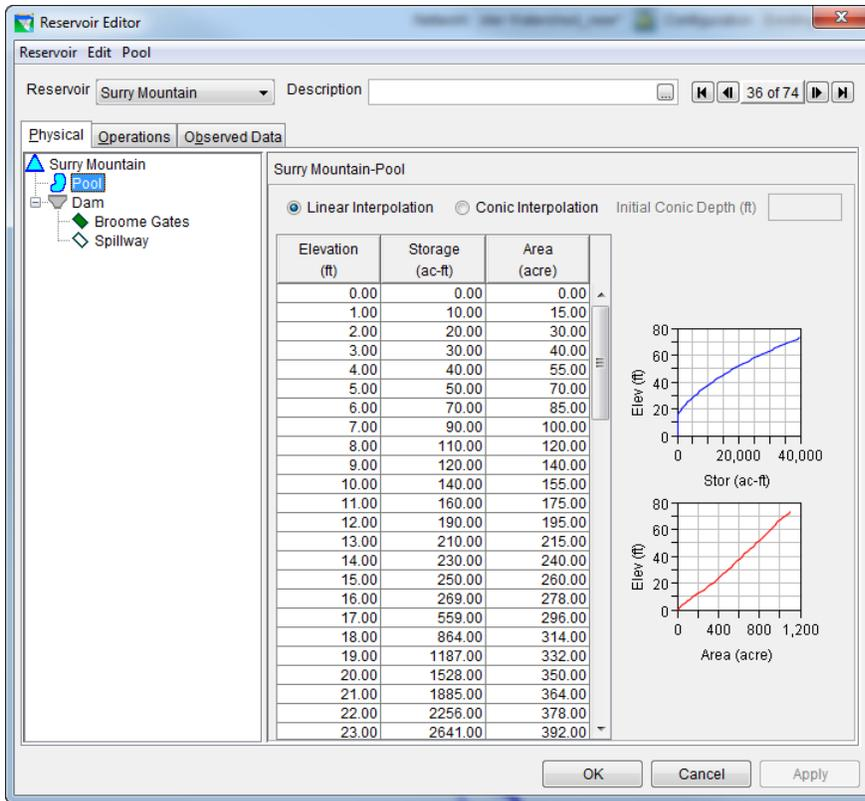
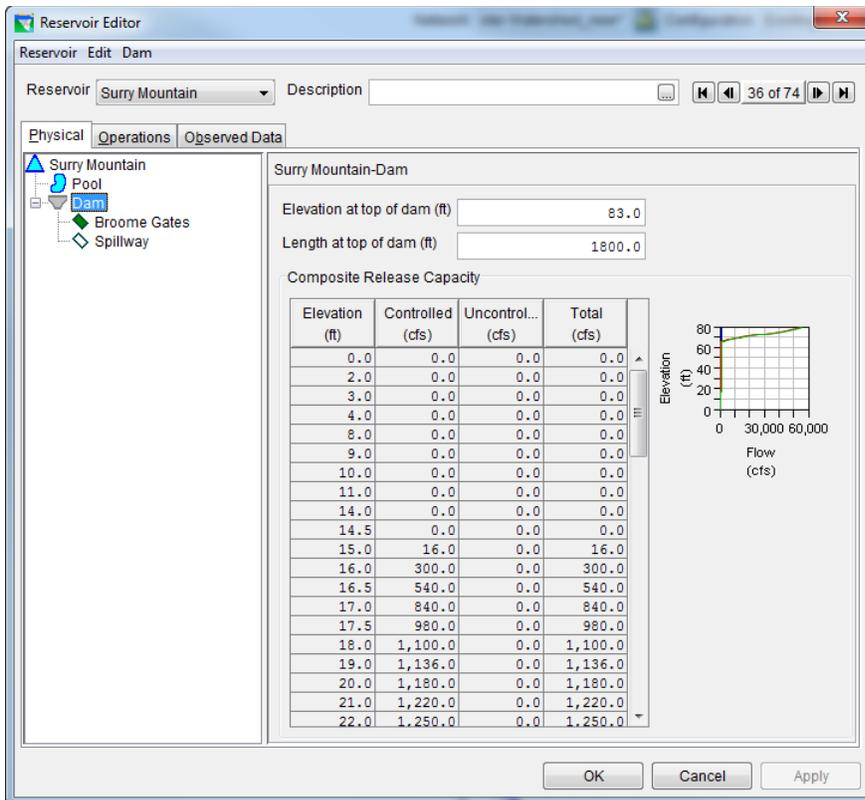

Figure 3: Reservoir Editor: Physical Tab -- Pool
Figure 4: Reservoir Editor: Physical Tab -- Dam
The physical characteristics of the reservoir are separated between the Pool and the Dam in the HEC-ResSim model. The elevation-storage-area defines the pool as shown in Figure 394. The dam consists of three types of outlets: (1) controlled Waste Sluice, (2) uncontrolled outlet, and (3) controlled Inlet pipe for pump power generation as shown in Figure 4.
The physical characteristics of the reservoir are separated between the Pool and the Dam in the HEC-ResSim model. The elevation-storage-area defines the pool as shown in Figure 3. The dam consists of two types of outlets: (1) controlled Broome gates, and (2) uncontrolled spillway, as shown in Figure 4. All physical and operations data were provided by US Army Corps New England District, through both a previously created ResSim model and the Reservoir Regulation Team website95.